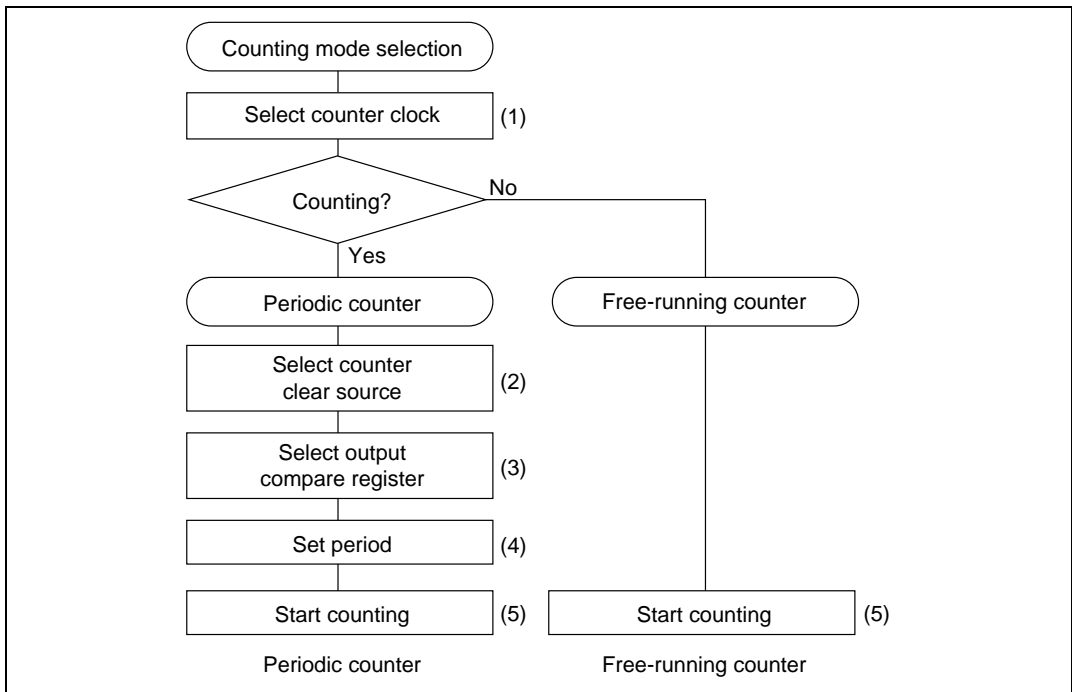

Figure 10.14 Procedure for Selecting the Counting Mode
- Procedure for selecting counting mode (figure 10.14):